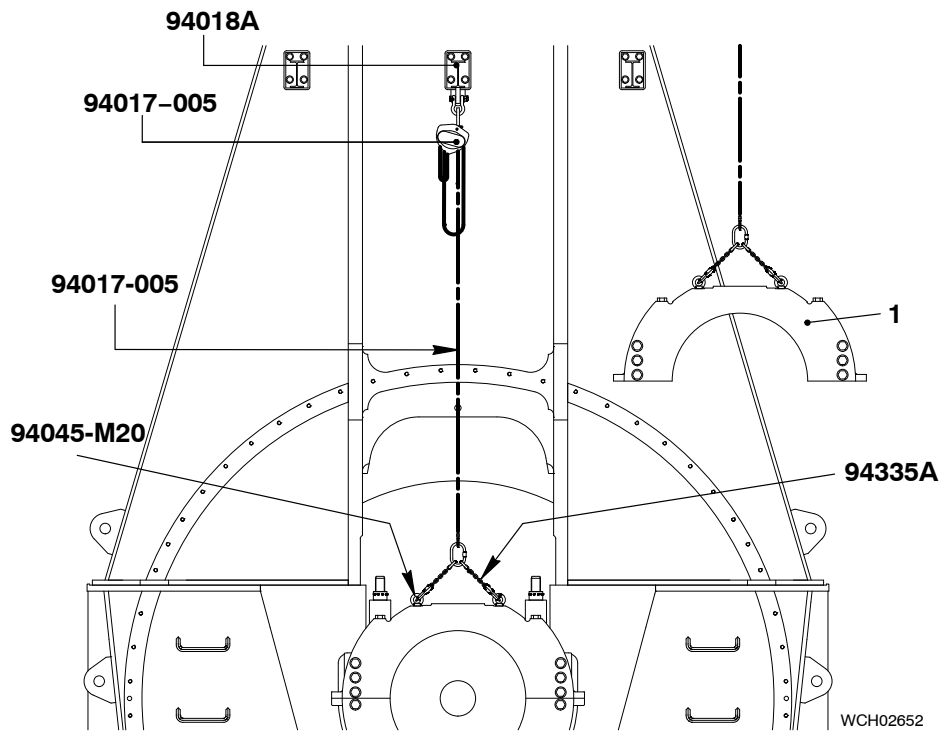

Fig. 3
- 4) Attach two eye bolts (94045-M20, Fig. 3) to the top cylinder (1).
- 9) Operate the spur-gear chain block (94017-005) and the engine room crane to lift and move the top cylinder (1) to an applicable area.
- 10) Lower the top cylinder (1) on to an applicable surface.
- 5) Operate the engine room crane and spur-gear chain block (94017-005, Fig. 3) to move the top cylinder into position above the bottom cylinder.